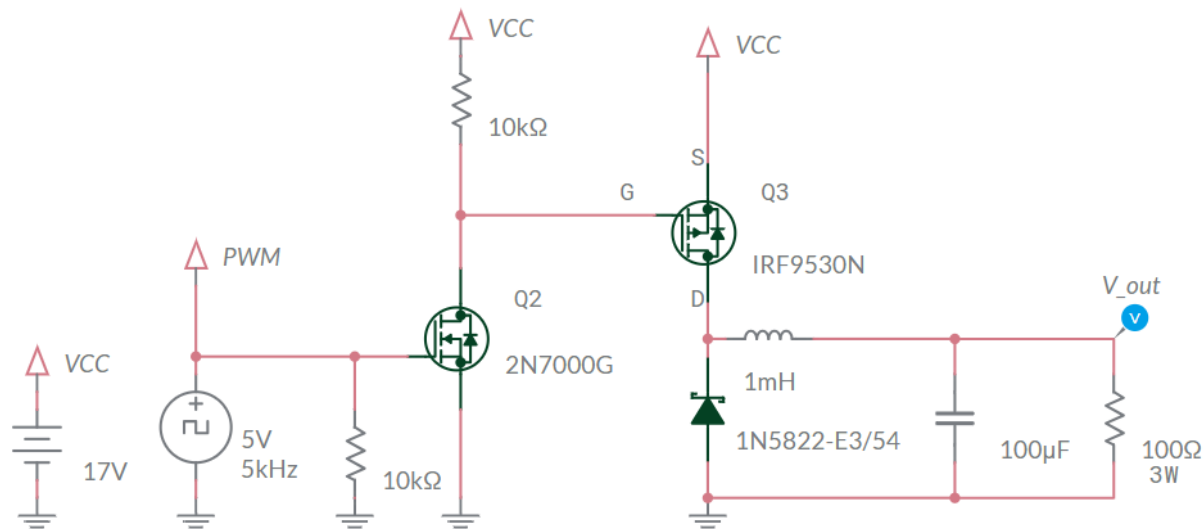

Figure 13: The simulation of the buck converter is available on Multisim. Save yourself some time and use the link provided.
In order to help you move more quickly through the lab, you can use my Multisim simulation available at this link and shown in Figure 13.
- 6) What is the role of the pair of 10k resistors in Figure 13?
- 8) What is the relationship between V_{out} and I_{out} when the switch in Figure 13 is open?